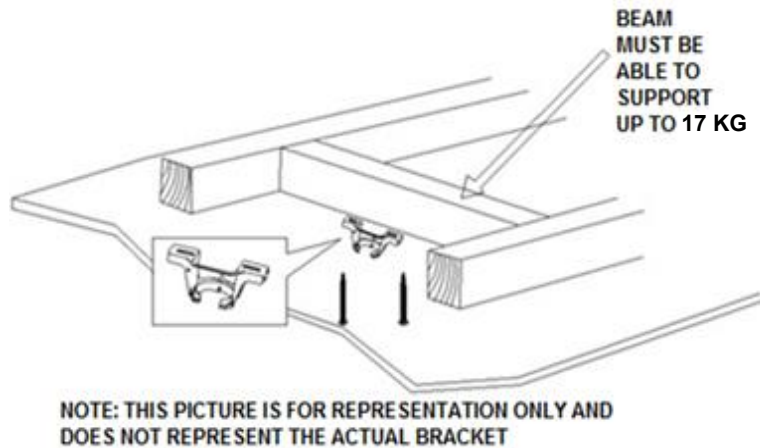

Fig. 2
- Install the hanging bracket to the ceiling joist or structure that is capable of carrying a load of at least 17kg, with two long screws provided. Ensure at least 30mm of the screw is threaded into the support. (Fig. 2)